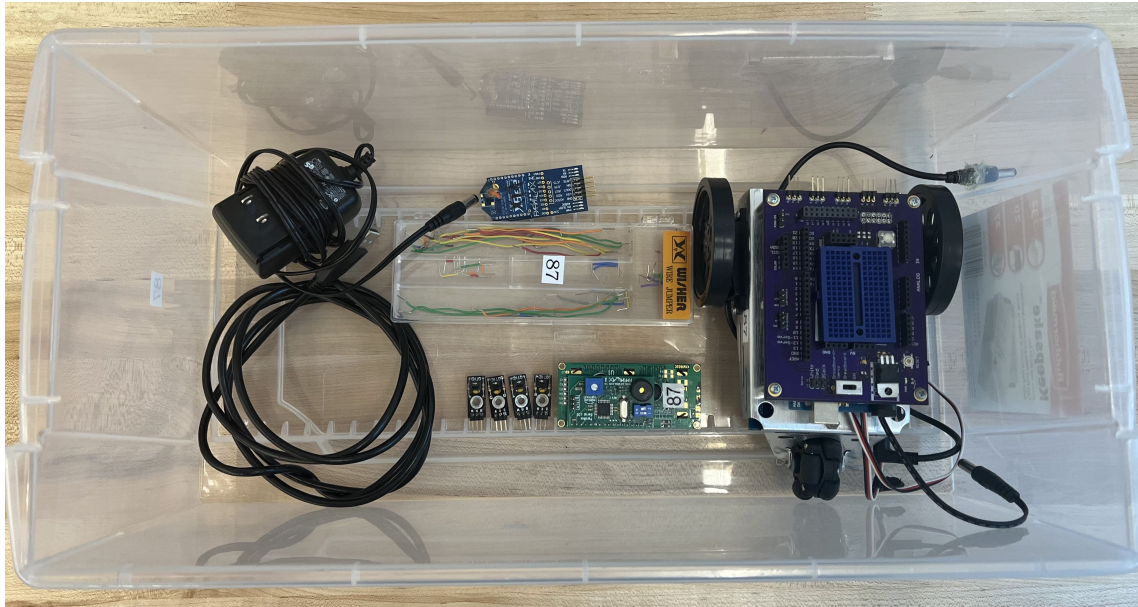

Figure 2. Example picture of Bot Box as it should look when returned.
**NOTE:** You are allowed to have pictures of your 'bot with you during your oral defense, but not your actual 'bot. It is recommended that you take pictures of your 'bot before disassembling it. You will be required to disassemble your 'bot, organize your 'bot box, and take a picture of the 'bot box as a deliverable. See Figure 2.
**IDC Deliverable (12):** Participate in the Oral Defense. Provide TAs with an in-depth knowledge of your code, your components, decisions made, and successes and failures your group worked through. Be able to answer the very simple question about this on Gradescope.
- Upload a picture of your clean, organized Bot Box. It should be similar to what is shown in Figure 2.
- Upload a picture of your clean, organized Bot Box. It should be similar to what we see in Figure 2.